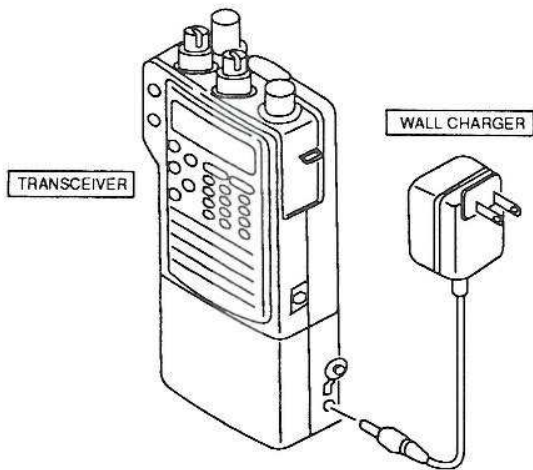

Figure 1-1
11. Be sure to fully charge the battery pack before you use your Transceiver for the first time. To do this, refer to Figure 1-1 and plug the free end of the cable coming from the wall charger into its corresponding socket near the lower right side of the battery pack. Then plug the wall charger into a standard 120 VAC wall outlet. The LED on the wall charger will light to indicate that the battery is charging. Allow the battery pack to charge for about 14 hours before you use the Transceiver.